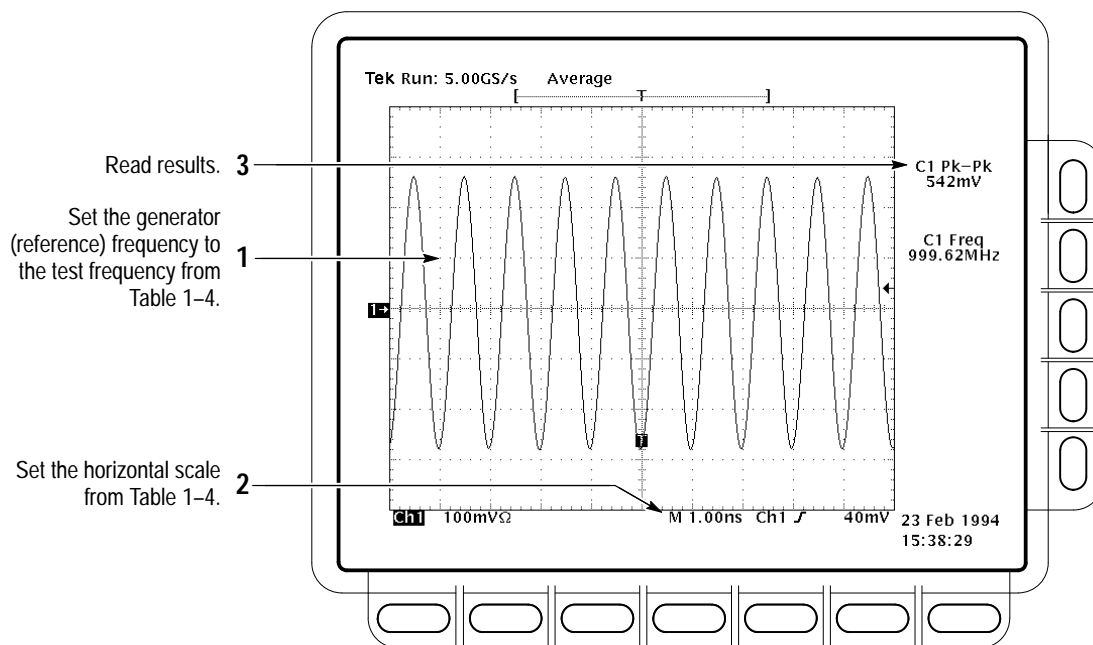

Figure 1–8: Measurement of Analog Bandwidth
- Set the frequency of the generator, as shown on screen, to the test frequency in Table 1–4 that corresponds to the vertical scale set in substep d. See Figure 1–8.
- Read the results at the CHx Pk-Pk readout, which will automatically measure the amplitude of the test signal. See Figure 1–8.